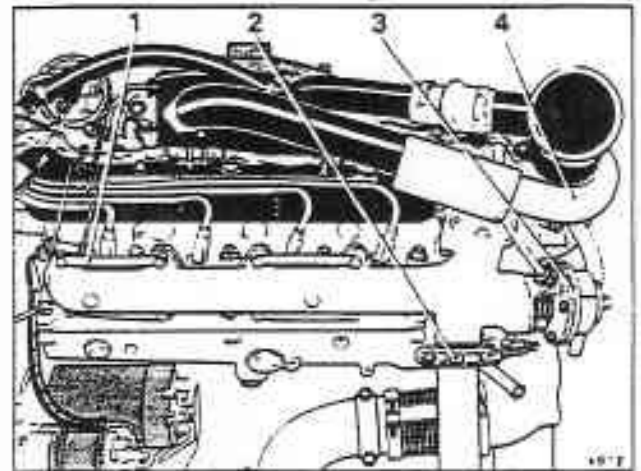

Fig. Q2/1-1 'A' bank exhaust manifold
5. Remove the wastegate assembly from 'A' bank manifold (see fig. Q2/1-1). Discard the 'O' ring.